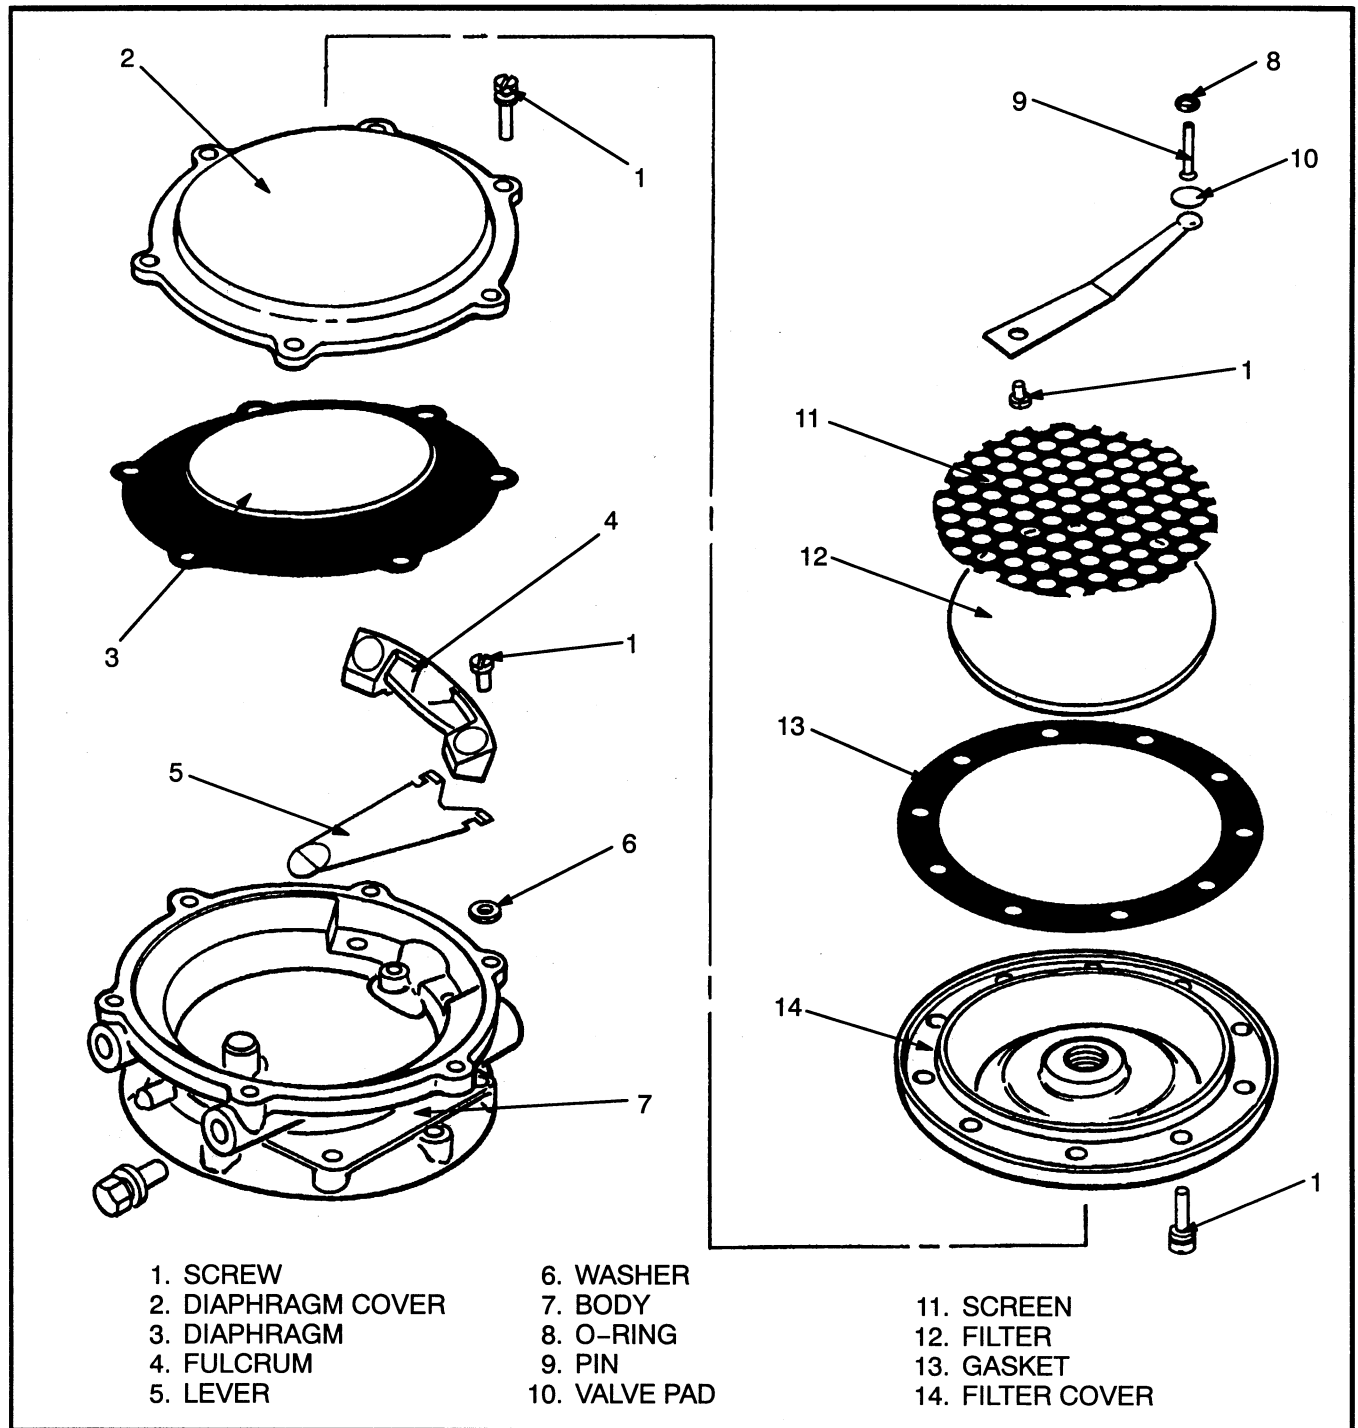

FIGURE 13. FUEL VALVE AND FUEL FILTER
**Replacement Of The Fuel Filter Element (See FIGURE 13.)**
**Replacement of the Diaphragm and Fuel Valve (See FIGURE 13.)**